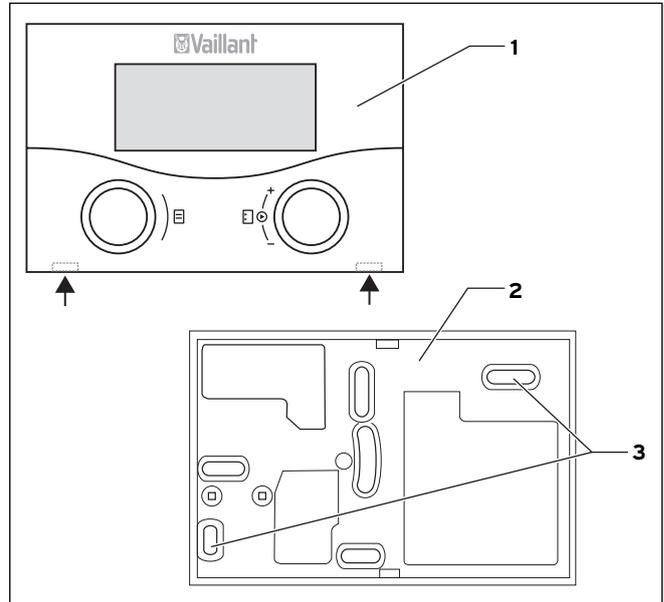

Fig. 4.2 Installation of the VRT 392f
- ⇒ Pull the controller (1) off the wall socket (2). This can be done by pushing a screwdriver into the two retaining straps (see Fig. 4.2 arrows).
- ⇒ Drill two holes 6 mm diameter to suit the fixing apertures (3).